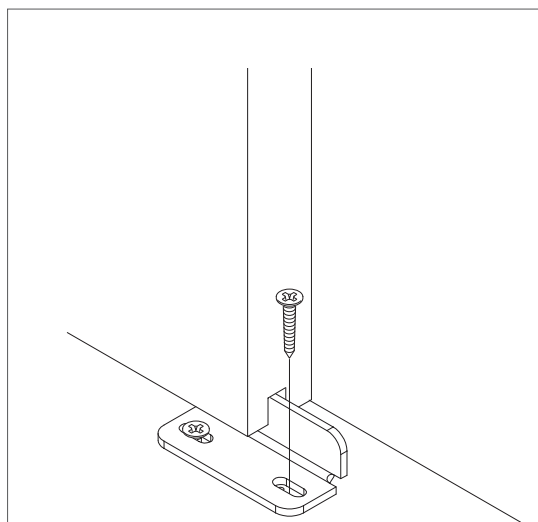

Figure 8
15. Install the second 1" phillips screw (provided) using a drill with a phillips bit. (Figure 8).